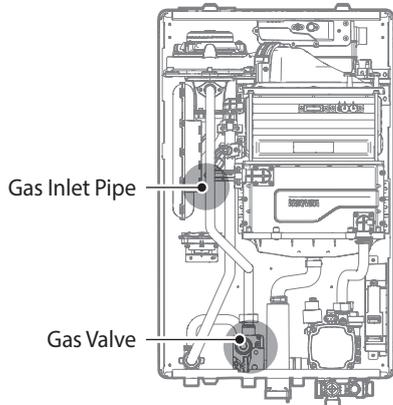
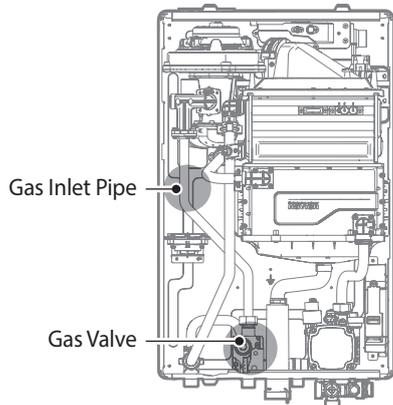

Figure 2-1.NCB 24 / 28 / 34LDWE, NCB 20/24/28LHWE Internal Components
Figure 2-2.NCB 40LDWE, NCB 33LHWE Internal Components
- With the internal components exposed, locate the gas inlet pipe and the gas valve in the middle of the unit as shown in Figure 2-1 and Figure 2-2.